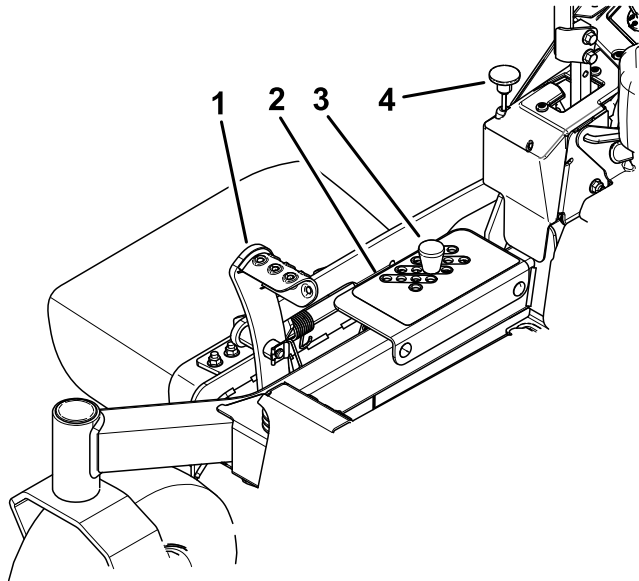

Figure 27
2. Push on the deck-lift pedal with your foot and raise the mower deck to the TRANSPORT position (also the 127 mm or 5 inch cutting-height position) as shown in Figure 27.
3. Remove the pin from the height-of-cut bracket (Figure 27).
4. Select a hole in the height-of-cut bracket corresponding to the height-of-cut desired, and insert the pin (Figure 27).